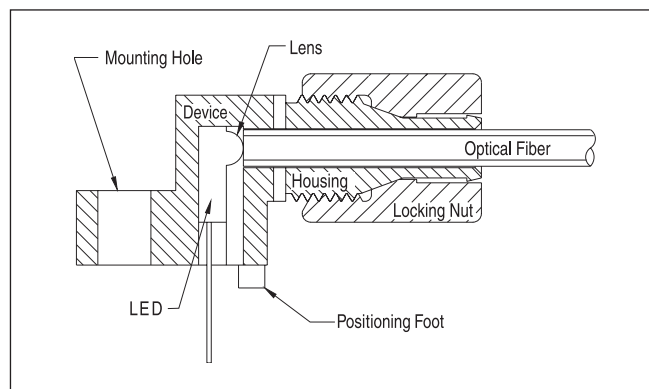

FIGURE 5. Cross-section of fiber optic device.
**FIGURE 5.** Case outline. Specifications are believed to be accurate but are subject to change. Industrial Fiber Optics assumes no responsibility for the consequences of using the information provided beyond replacement warranty for products not meeting stated specifications. Industrial Fiber Optics products are not authorized for use in life support applications without written approval from the President of Industrial Fiber Optics Corporation.